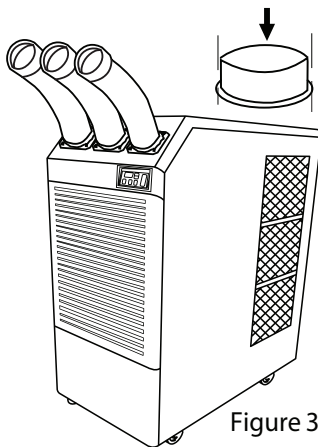

Figure 3
3. Use screws (enclosed inside of box with the top fan exhaust flange) to install the top fan exhaust flange on air conditioner as shown in Figure 3.